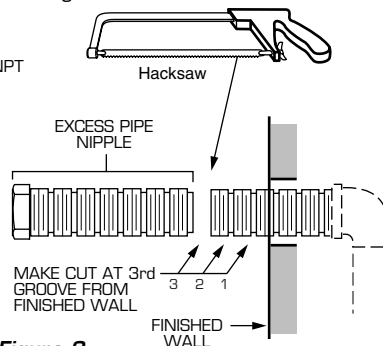

Figure 2
- Figure 2.** Thread PIPE NIPPLE (1) into elbow fitting, using adjustable wrench and tighten. Then, using a hacksaw, cut off excess PIPE NIPPLE (1) at the 3rd groove from the finished wall. Discard the excess pipe and remove any burrs and debris from the nipple.